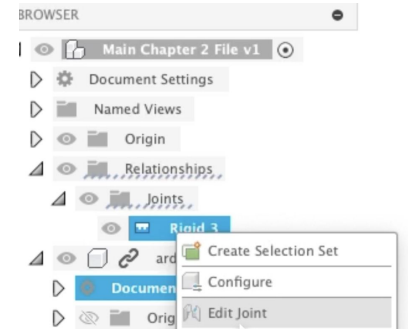

Figure 1.7
- Joints can be modified at any time through the '**Timeline**' or the '**Browser Tree**'. In the '**Tree**', you'll see that a relationship has been created, this is where you can edit or adjust your joints (see Figure 1.7).